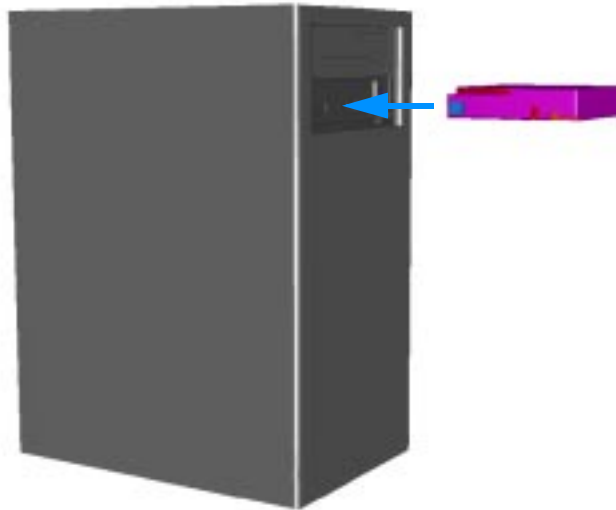

Figure 3-3 Cartridge insertion
1. Ensure that the LTO cartridge is correctly oriented with the arrow on the cartridge pointing up and towards the tape drive (see Figure 3-3).